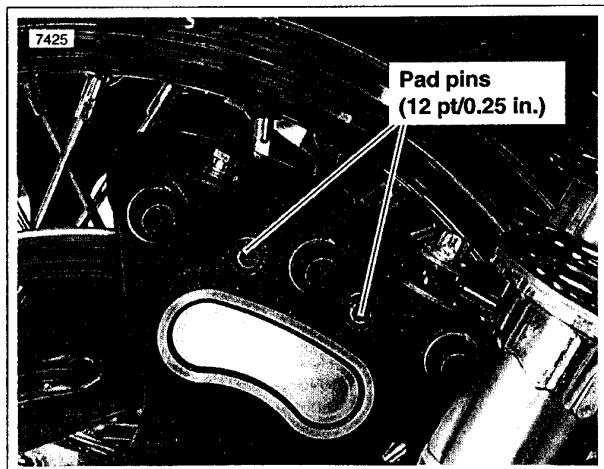

Figure 1-16. Pad Retaining Bolts
3. See Figure 1-16. Loosen, but do not remove, both pad pins (12 pt/0.25 in.).